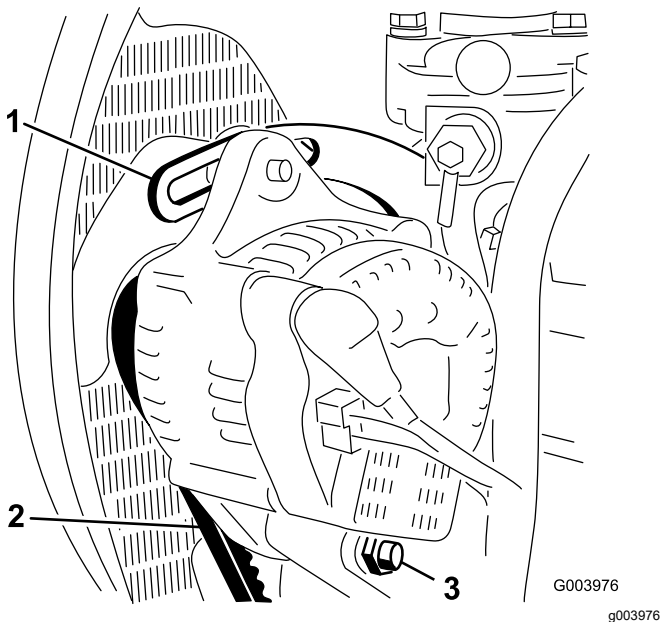

Figure 115
3. Check the tension of the alternator belt by pressing it (Figure 115) midway between the alternator and the crankshaft pulleys with 10 kg (22 lb) of force.
4. Loosen the bolt securing the alternator to the brace, and the alternator pivot bolt. (Figure 115)